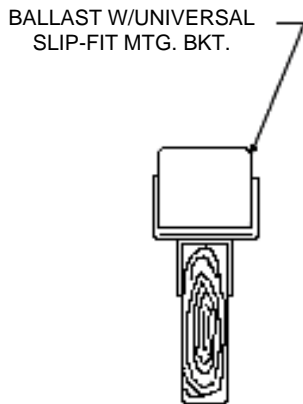
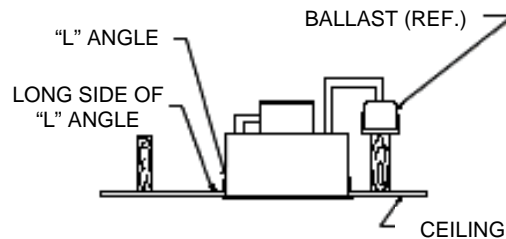

FIG. 1
FIG. 2
3. Place ballast with universal slip-fit mounting brackets on nearest ceiling joist, wood, or iron. Ballast should be mounted 12" from fixture (see Fig. 1)
5. Raise fixture housing to socket box and attach to top using (2) ¼ turn fasteners provided with socket box.
7. Install (4) "L" angles containing screws, working from inside of fixture. Insert long side of "L" angle through crossed slots. Allow "L" angle to drop and use tab to push sown. While holding with thumb, sandwich ceiling material and tighten screw.
**KEEP FIXTURE FLUSH WITH FINISHED CEILING (See Fig. 2)**
10. Insert (2) #10 machine screws provided in hardware package into mounting holes on door frame. Slip fiber captive washers onto screws so screws will be retained for future maintenance.